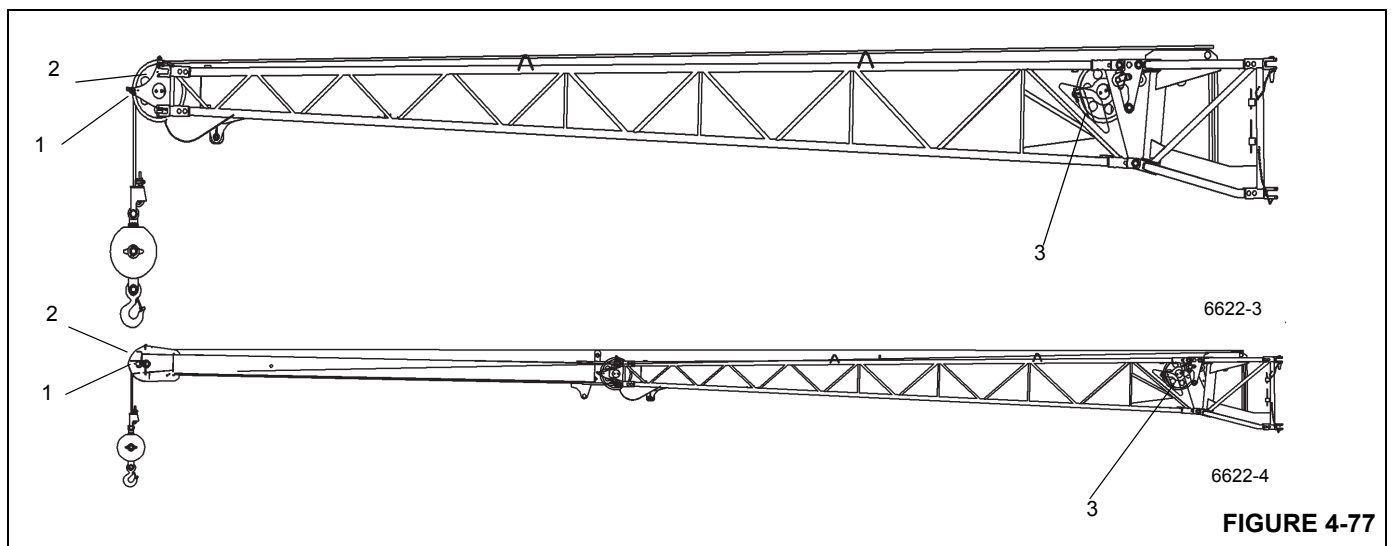

FIGURE 4-77
**NOTE:** For zero (0°) offset, leave the mast in the stowed position as shown in Figure 4-77.
- Remove the hoist cable holding rollers and rod (1) (Figure 4-77).
- Guide the hoist rope via the deflection sheaves (3), if used and via the head sheave (2) on the 33 ft (10.1 m) section or on the 23 ft (7 m) section. Put all hoist cable holding rollers and rods back in place and secure these with retaining pins.
- Remove the hoist cable holding rollers and rods (1).
- Take the hoist cable off the head sheave (2) and the deflection sheaves (3), if used, and place it onto the ground on the left side.